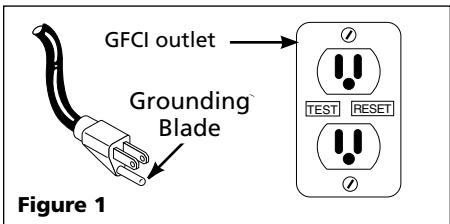

Figure 1
11. This equipment is only for use on 120 volt (single-phase) and is equipped with an approved 3-conductor cord and 3-prong, grounding-type plug as shown in Figure 1. To reduce the risk of electric shock, the motor must be securely and adequately grounded. This can be accomplished by inserting plug directly into a properly installed and grounded 3-prong (GFCI), grounding-type receptacle (as shown in Figure 1). Where a 2-prong wall receptacle is encountered, it must be replaced with a properly grounded 3-prong (GFCI) receptacle installed in accordance with the NEC and local codes and ordinances.
13. It is required that this unit is plugged into a Ground Fault Circuit Interrupter (GFCI). Consult a local electrician for installation and availability (See Figure 1).